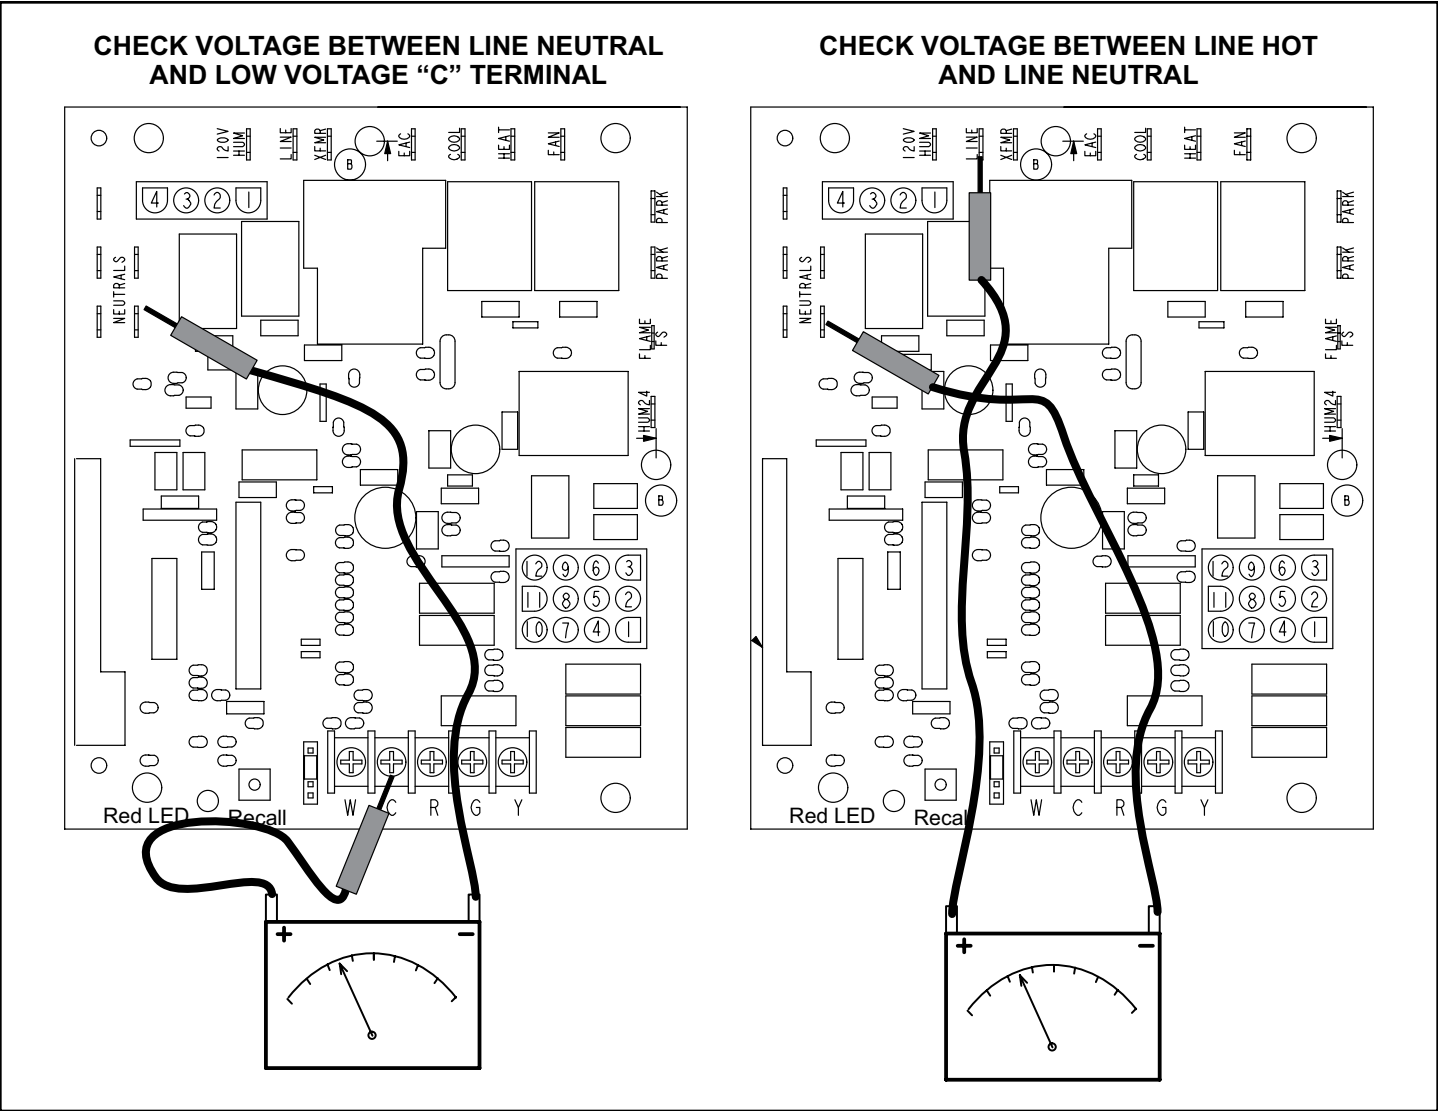

Figure 52.
- 1. Measure the AC voltage between Line Neutral (spade terminals) and “C” terminal (low voltage terminal block) on the integrated control. See Figure 52. A wide variation in the voltage between Line Neutral and “C”
- 2. In addition, measure the AC voltage from Line Hot to Line Neutral (spade terminals) on the integrated control. See Figure 52. This voltage should be in the range of 97 to 132 VAC
Blower speed tap changes are made on the integrated control. See Figure 3 or Figure 52. The heating tap is connected to the "HEAT" terminal and the cooling tap is connected to the "COOL" terminal. On all units the continuous blower tap is connected to the "FAN" terminal. Unused taps must be secured on two dummy terminals labeled "PARK". To change out existing speed tap, turn off power and switch out speed tap with tap connected to "PARK". See blower speed tap table on unit diagram for motor tap colors for each speed.